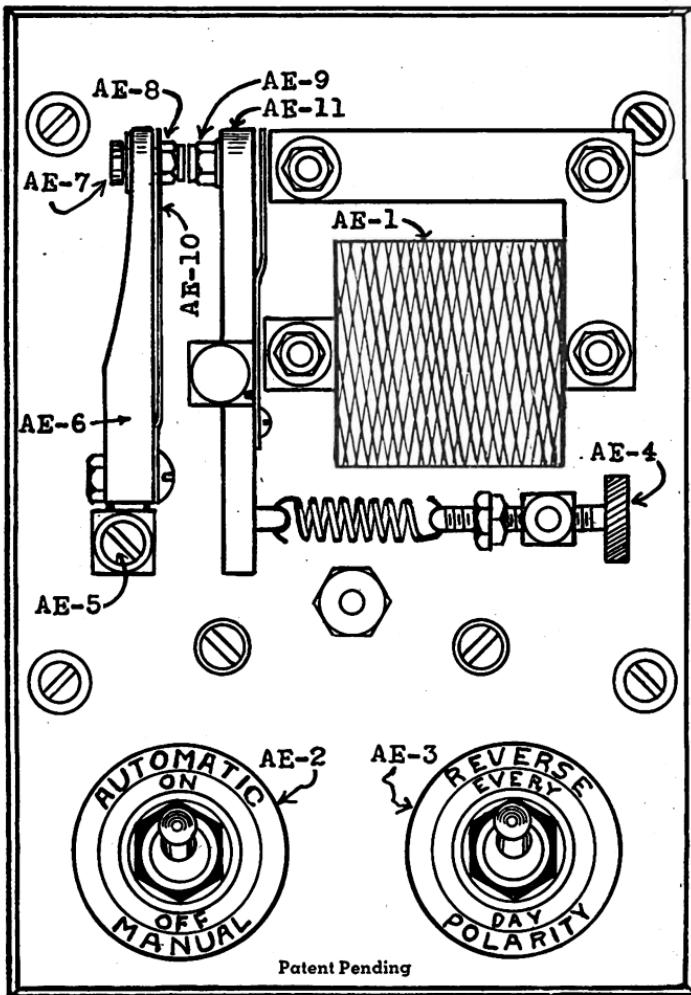

Figure 7. Voltage Regulator, front view.
(3) Throw the switch AE-2 (fig. 7) to the ON position. The regulator should bring the a-c voltage up to normal.
(4) Adjust screw AE-4 (fig. 7) to bring voltage up to normal (240 volts).
(5) After a few minutes, throw the switch AE-2 to the OFF position and note the voltage reading on the voltmeter. If the reading is more than 45 percent of the normal voltage (240 volts), adjust the rheostat to bring the voltage down to the correct value (about 108 volts).
(6) Throw switch AE-2 to the ON position again. The alternator is now regulated to maintain the voltage to within $2\frac{1}{2}$ percent of normal.
(7) Mark the position of the rheostat pointer for future reference. It should be kept on this mark when using AUTOMATIC voltage regulation.